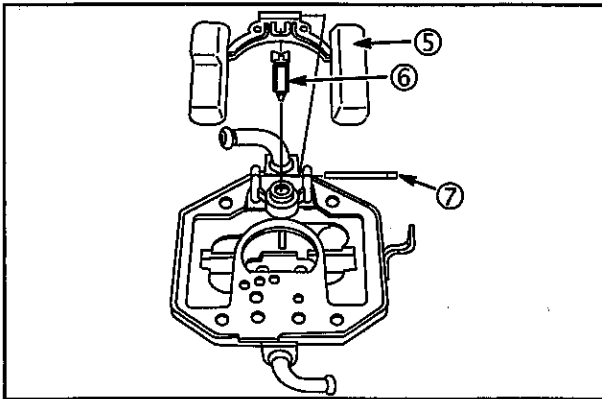

Fig. 99
3. Remove float (5) and fuel inlet needle (6), Fig. 99.